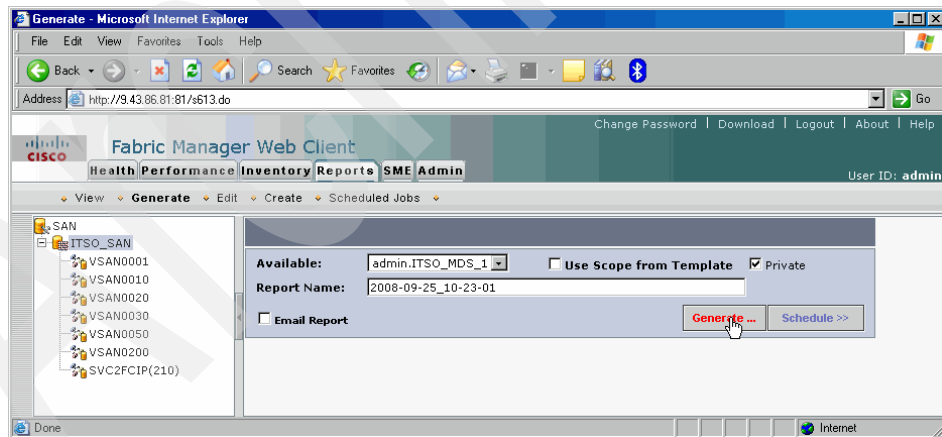

Figure 4-37 Generate the report from the SAN in the Cisco Fabric Manager Web Client
2. Choose the **Generate** button and get the report from the SAN network, as shown in Figure 4-37 and Figure 4-38 on page 116.